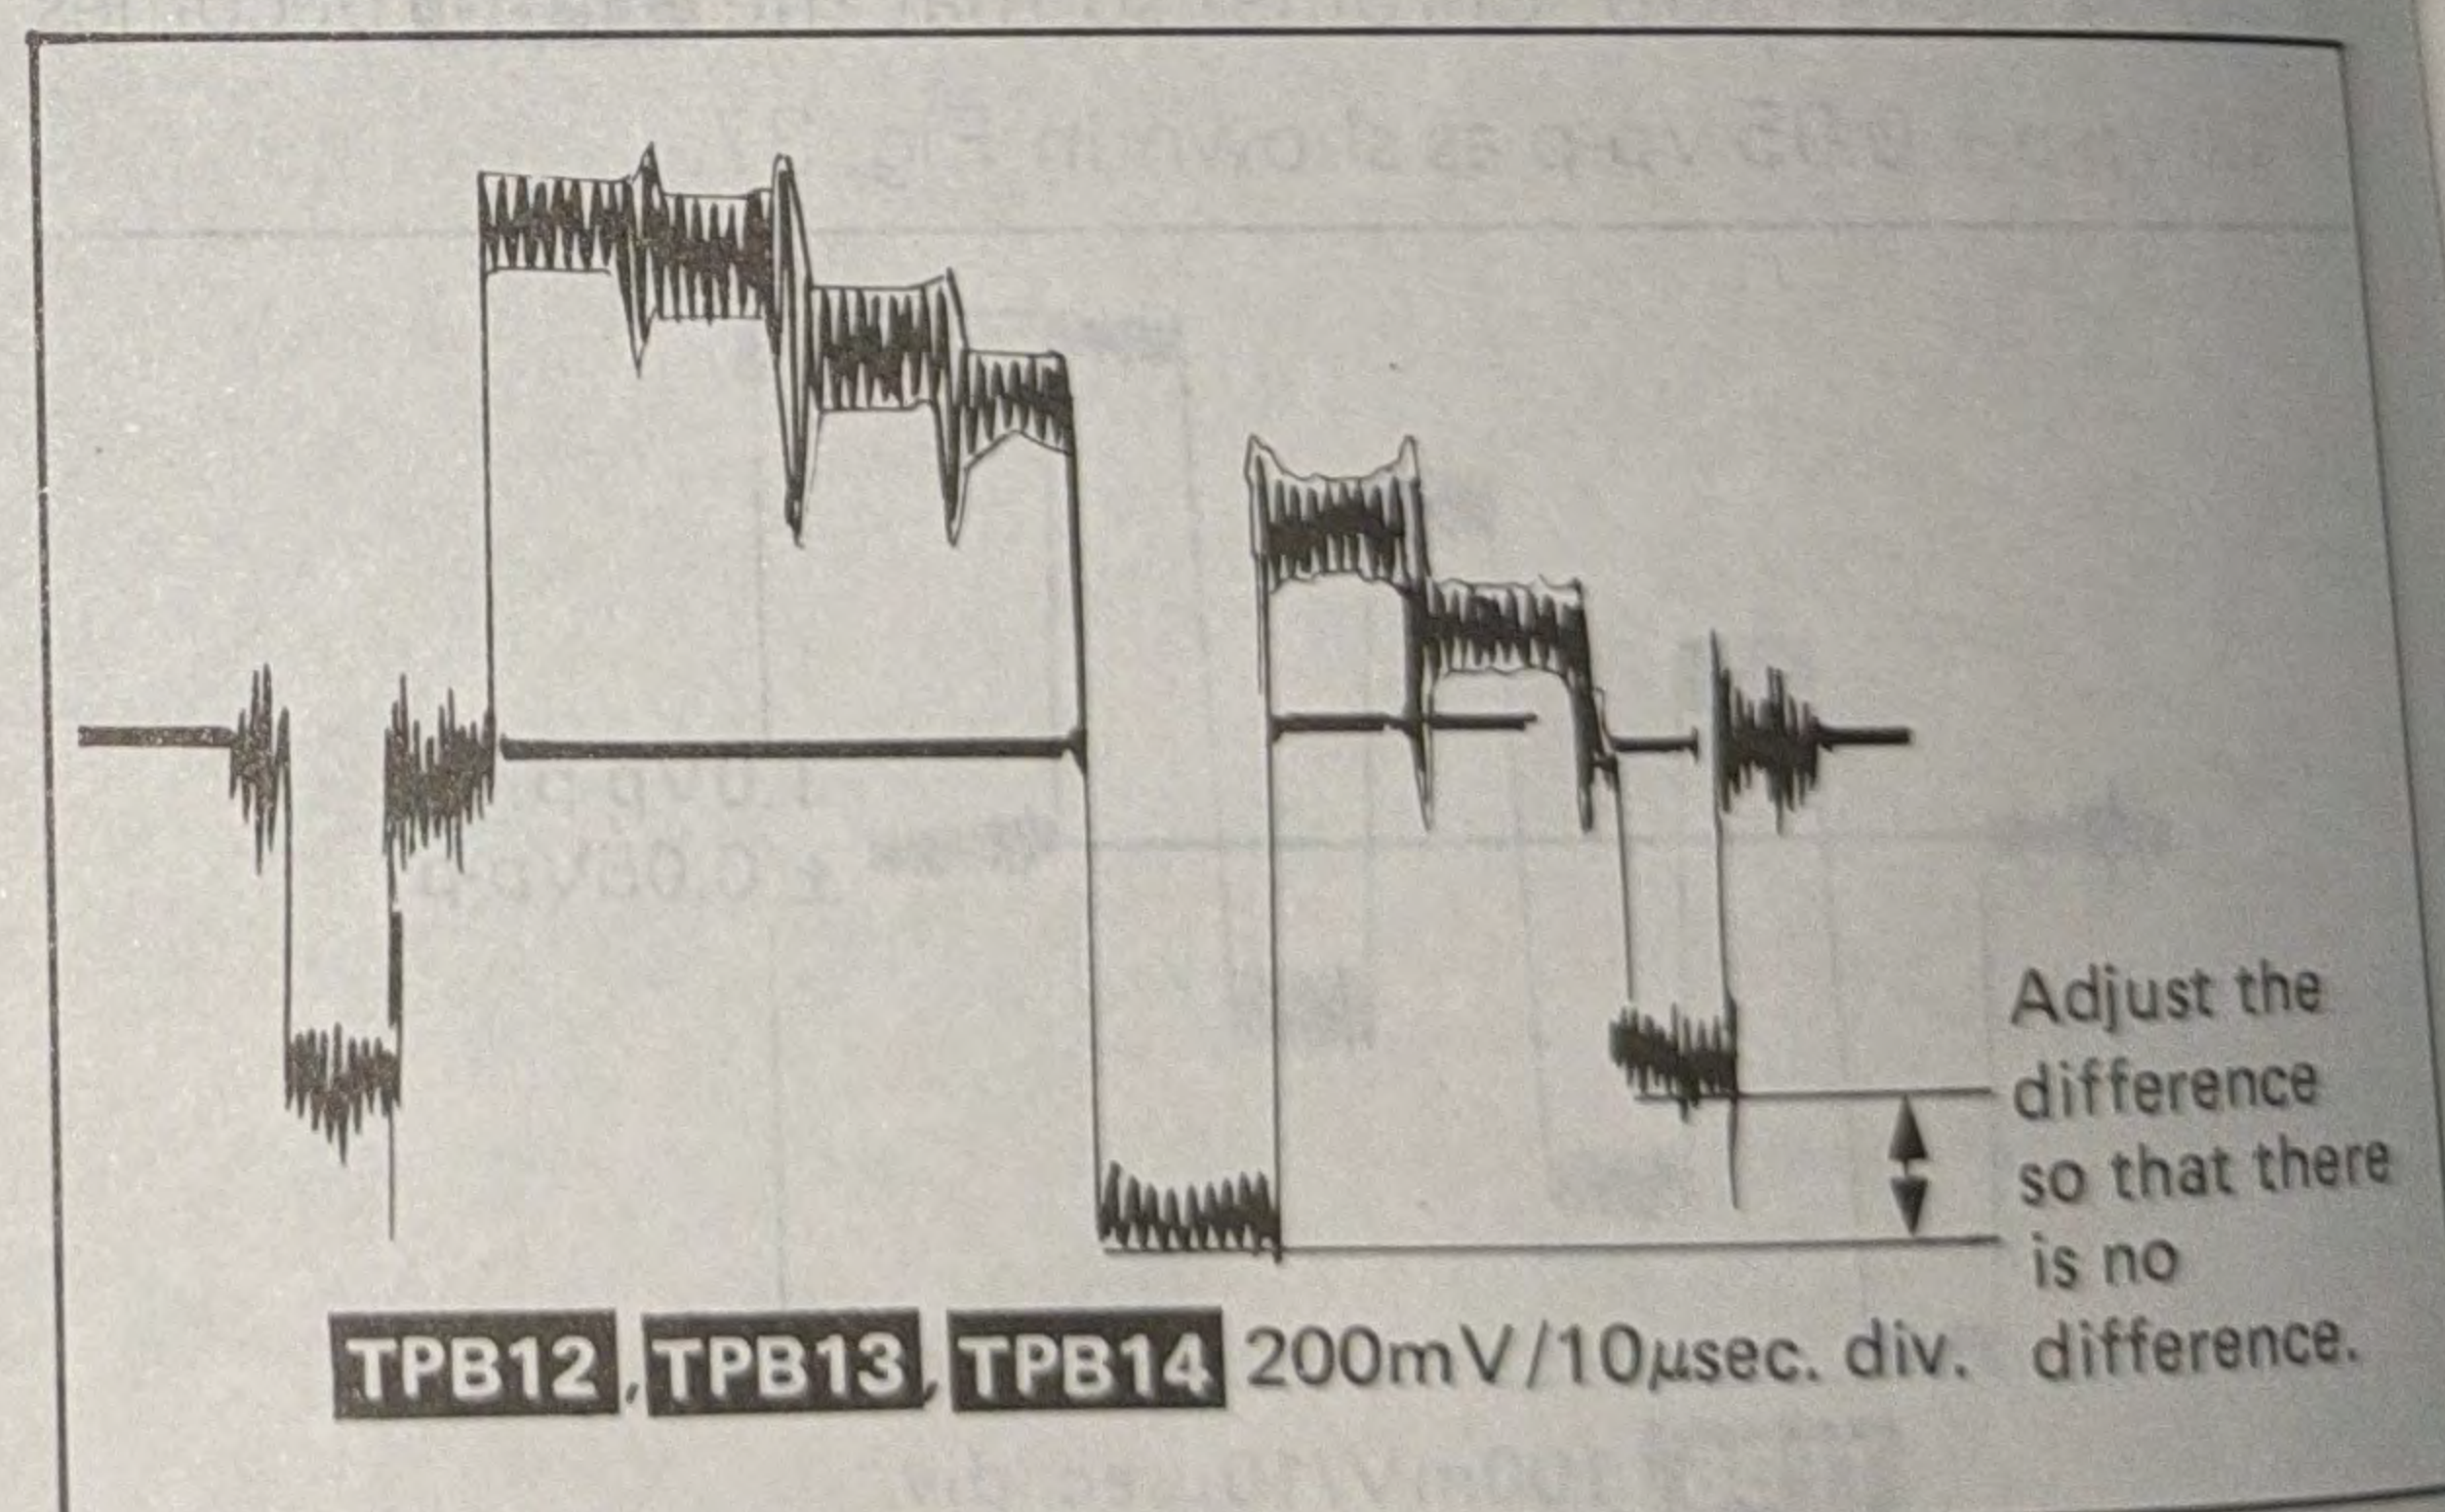

Fig. 42
4. Adjust R5143 (R-Pulse Level) so that the waveform **TPB12** becomes as shown in Fig. 42.
6. Adjust R5142 (G-Pulse Level) so that the waveform **TPB13** becomes as shown in Fig. 42.
8. Adjust R5144 (B-Pulse Level) so that the waveform **TPB14** becomes as shown in Fig. 42.